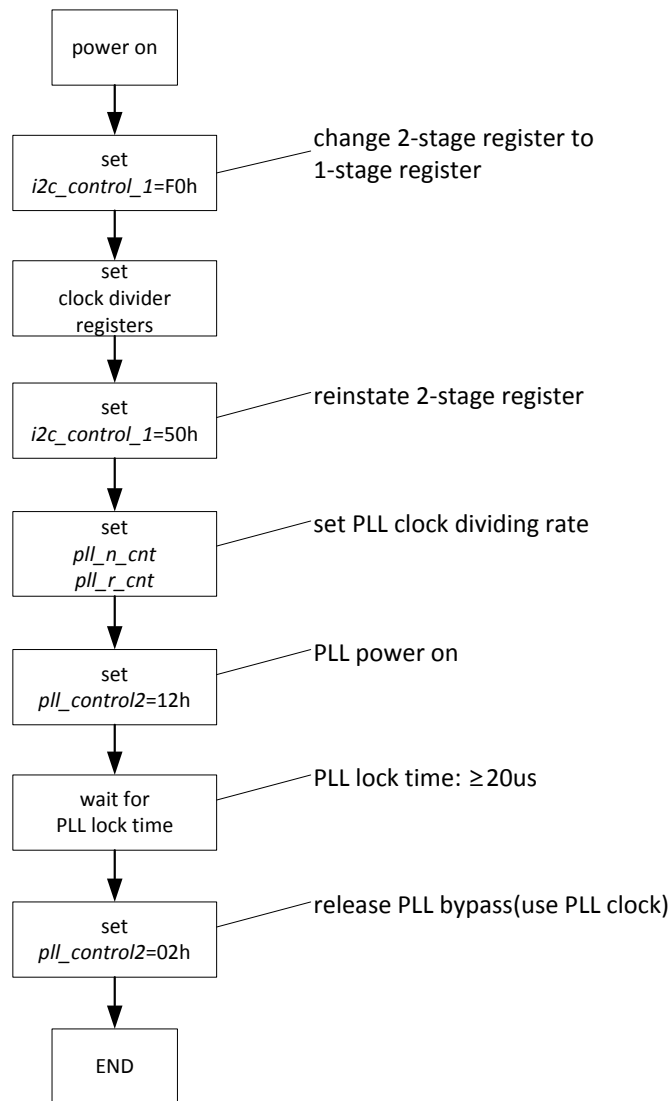

Figure 16 Clock setting sequence
- When using PLL, set-up sequence, show Figure 16, is necessary.